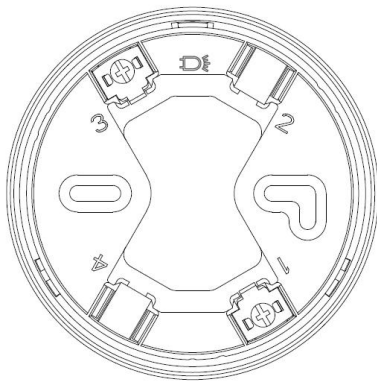

Figure 2
5.1 The terminal diagram of detector base (DZ-A16) is shown in Figure 2: